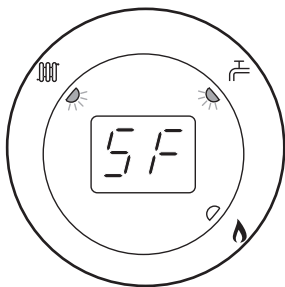

Fig. 35
4. The display will now alternate between 'SF' and the current boiler temperature and both green LEDs will flash (Figs. 35 & 36).